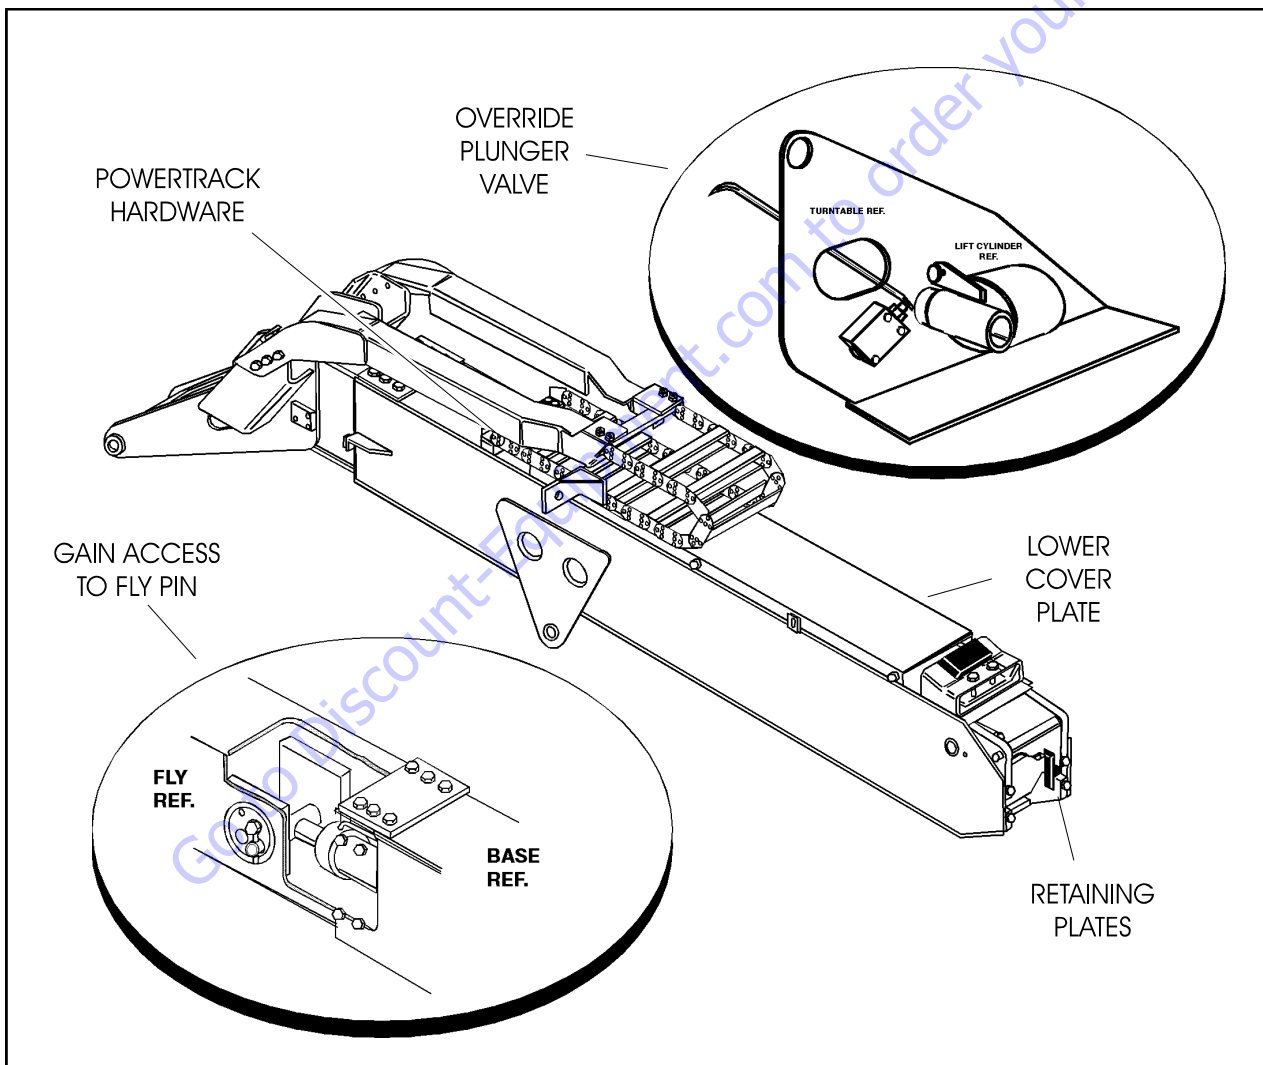

Figure 5-146. Tower Telescope Cylinder Removal
1. Place machine on a flat and level surface, with main boom in the horizontal position. Shut down engine and prop the boom See Figure 5-146., Tower Telescope Cylinder Removal.
1. With the boom positioned as in Figure 5-146., Tower Telescope Cylinder Removal, slide the telescope cylinder into the boom, aligning the cylinder port block end with slotted holes in Base Boom. Secure telescope cylinder with mounting hardware.